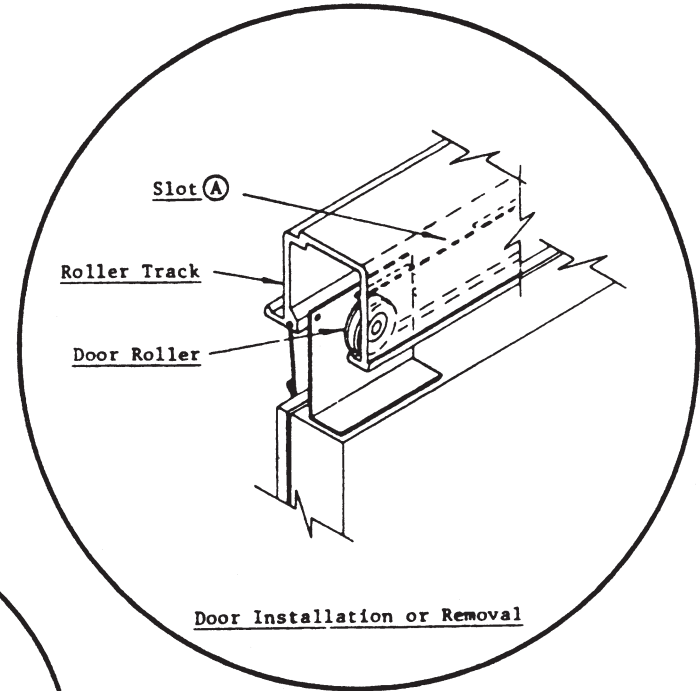

Fig. 4
(1) Slide Doors - Each door has its own Closing Spring located at the top and is positioned for Proper Tension. However if adjustment is required remove doors as follows:
- a. Locate Door Rollers under slot Ⓐ show in fig. 4, and lift door off track while tilting bottom of door out.